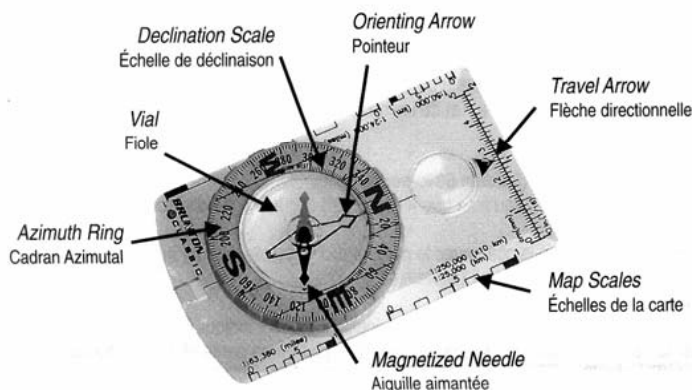

Figure 1
2. Getting to know your Compass (Figure 1)